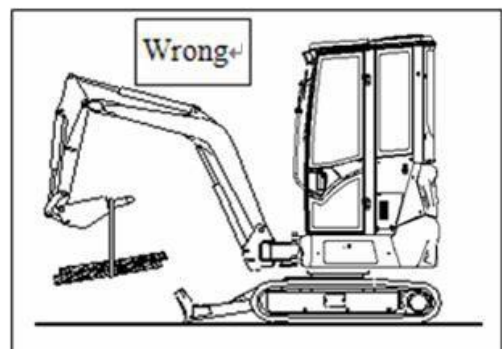

FIG. 4.7.3
- 8) Don't lift objects with hydraulic breaker, otherwise it will cause machine tipping and (or) breaker damage. (as FIG. 4.7.3)